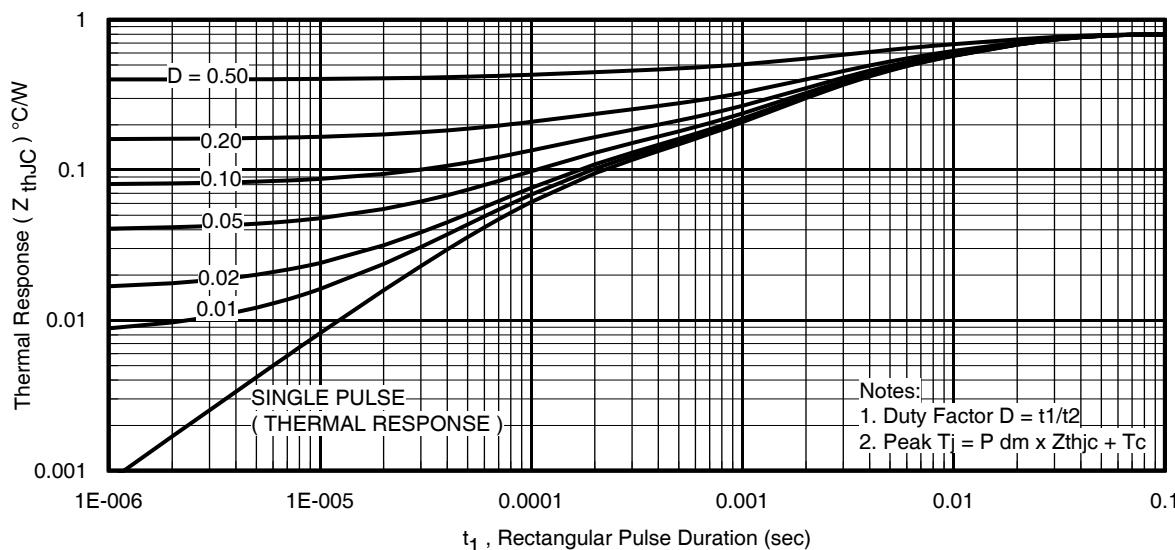

Fig 14. Maximum Effective Transient Thermal Impedance, Junction-to-Case
Notes on Repetitive Avalanche Curves , Figures 14, 15: (For further info, see AN-1005 at www.infineon.com)
7. ΔT = Allowable rise in junction temperature, not to exceed T_{jmax} (assumed as 25°C in Figure 14, 15).